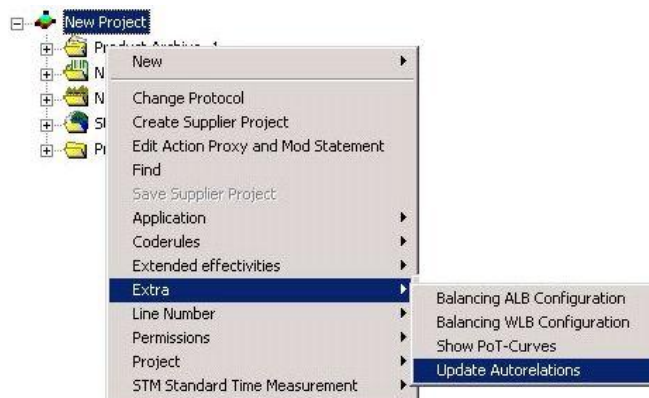

Figure 188: Starting the Update on the Project Level
- 1) Click **Update Autorelations** item to start the update. *Please refer to the Figure 188.*